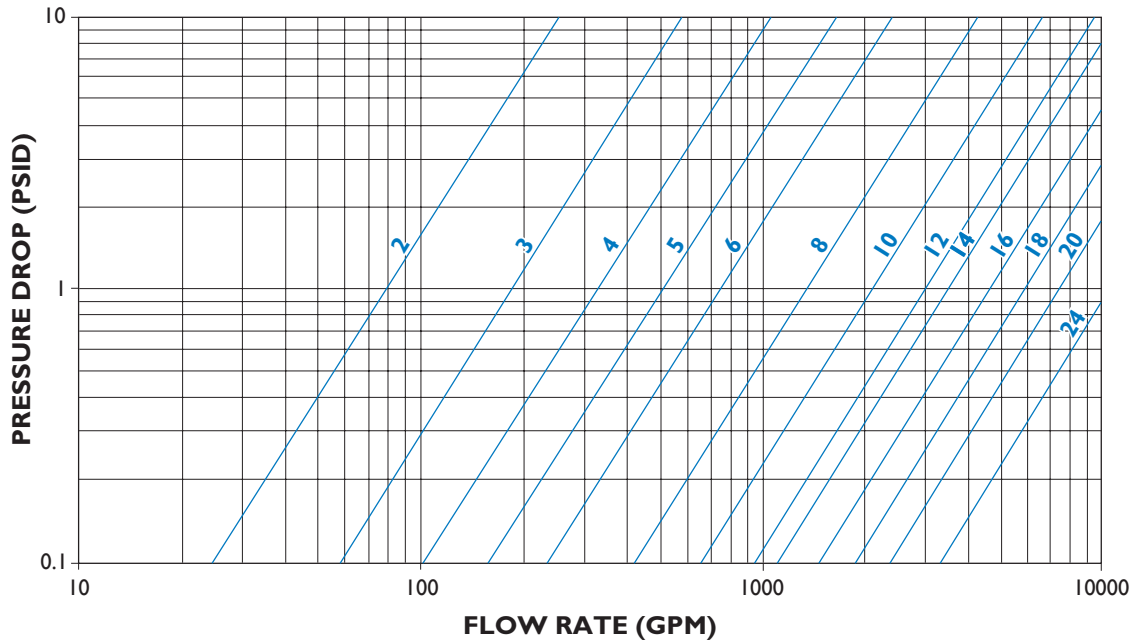

FIGURE 5
- A)** Using figure 5 the pressure drop is determined to be 2.0 psid with IFC's standard screen.